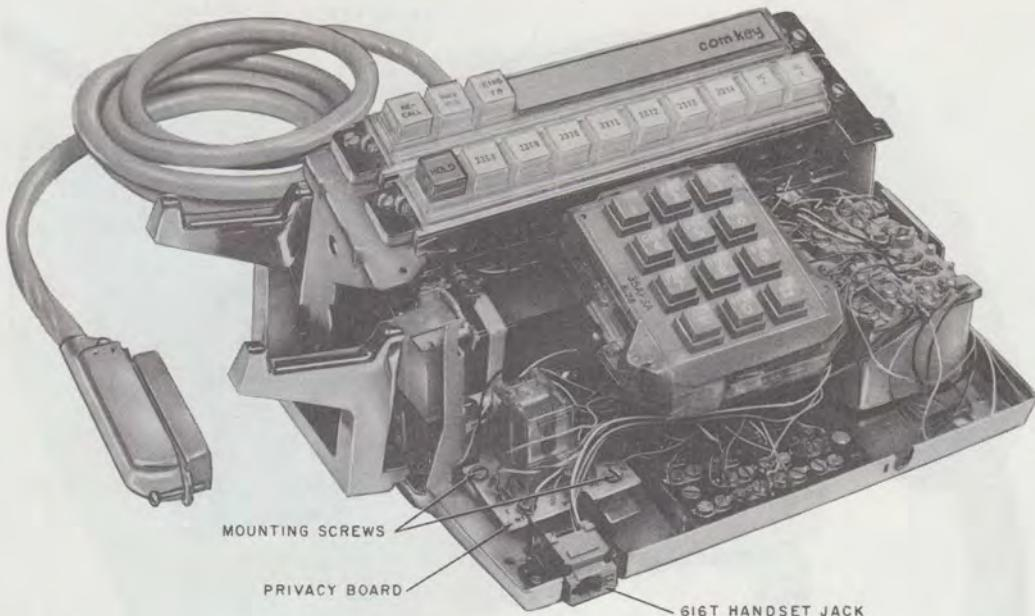

Fig. 3—2832CM Telephone Set Base
**2.01** The 832BM (Fig. 1), 2832BM, 832CM, and 2832CM (Fig. 2) are modular type telephone sets and will replace the 832B, 2832B, 832C, and 2832C telephone sets, respectively, which are hereby rated MD. The 832DM, 2832DM, 832EM, and 2832EM are also modular sets and are electrically and functionally equivalent to the 832BM, 2832BM, 832CM, and 2832CM sets, respectively, except that they have been adapted for wall mounting. The modular sets will all be equipped with a G15A-50 handset and H4DU-50 handset cord which will plug into a 616T jack mounted on the left front of the telephone set base (Fig. 3). Current production models of these sets also are equipped with an improved line switch and an improved Automatic
- (b) **Station Restriction (2832-type telephone set):** On telephone set terminal board, move (G) lead from terminal 22 to 4, and (R) lead from terminal 4 to 22.
- (1) Mount privacy circuit board on the two standoffs located at left front of the telephone set base (Fig. 3).
- (2) Fasten circuit board to standoffs using mounting screws furnished with the telephone set.
- (3) Connect leads according to Table C.
- (4) Refer to paragraph 3.06 for testing the privacy release key.
- (d) **Privacy Circuit (D-180486 Kit of Parts) disabling, 832-type telephone sets:** Remove (O) and (BK) leads of Privacy Circuit from telephone set terminal 8 and 12, respectively, and insulate and store, see Table E.
- (1) If feature is to be added to DM- or EM-type set, a 268A adapter must be used as follows:
- (a) Mount 268A adapter onto 833A-50 adapter with two screws as shown on Fig. 3